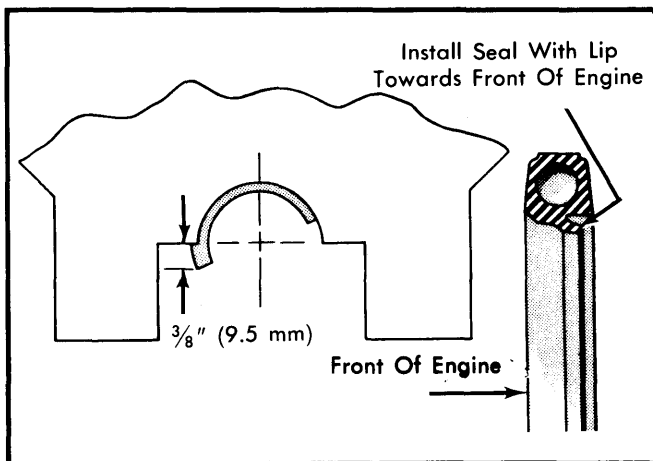

Fig. 10 Split Lip Type Rear Main Bearing Oil Seal
2) Remove oil seal pin from bearing cap (if equipped). Discard pin. Dip seal halves in engine oil. Install upper seal in groove with undercut side of seal toward front of engine by rotating it on seal journal until  $\frac{3}{8}$ " (9.5 mm) protrudes below parting surface. See Fig. 10. Tighten main bearing cap bolts.